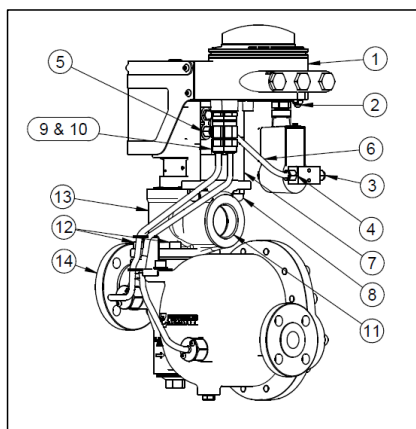
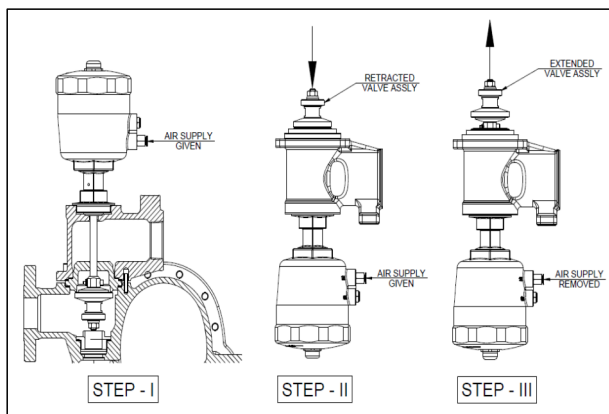

Fig. 7.9
Fig. 7.10
- 3) Remove electronic housing earthing from port 2 as shown in fig 7.9.
- 5) Close the air inlet valve and disconnect the air supply from the solenoid inlet port (3).
- 6) Detach the pneumatic pipe (6) running between the solenoid outlet port (4) and the actuator NC port (5).
- 7) Secure the electronic housing (1) and unscrew the dome nuts (8) from the both support rods (7)
- 8) Carefully remove the electronic housing (1) along with the support rods (7) and place it aside to prevent any physical damage.
- 1) Disconnect the pipeline attached to the product's diversion unit outlet (11) (refer fig 7.9).
- 2) Connect the air supply directly to the actuator NC port (5) (refer fig 7.9) and open the air inlet valve. This will cause the actuator to retract and switch the system to trapping mode (see Fig. 7.10, Step-I for reference).
- 3) Remove the socket head bolts (12).
- 4) Carefully lift the diversion unit assembly (13) and set it aside.
- 5) Position the actuator assembly (13) in an upright vertical position as shown in Fig. 7.10, Step-II.
- 6) Disconnect the air supply from the actuator NC port (5), which will extend the valve assembly to allow access to the internal components (refer to Fig. 7.10, Step-III).